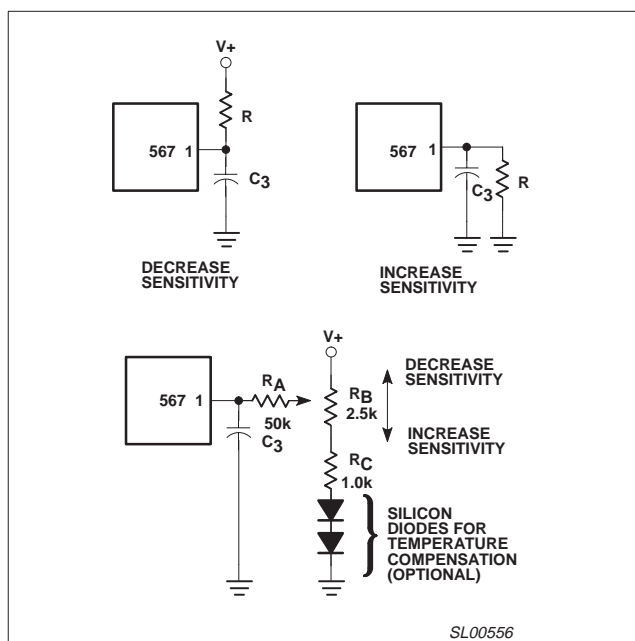

Figure 19. Sensitivity adjustment
**OPTIONAL CONTROLS** (Figure 19)
**SENSITIVITY ADJUSTMENT** (Figure 19)